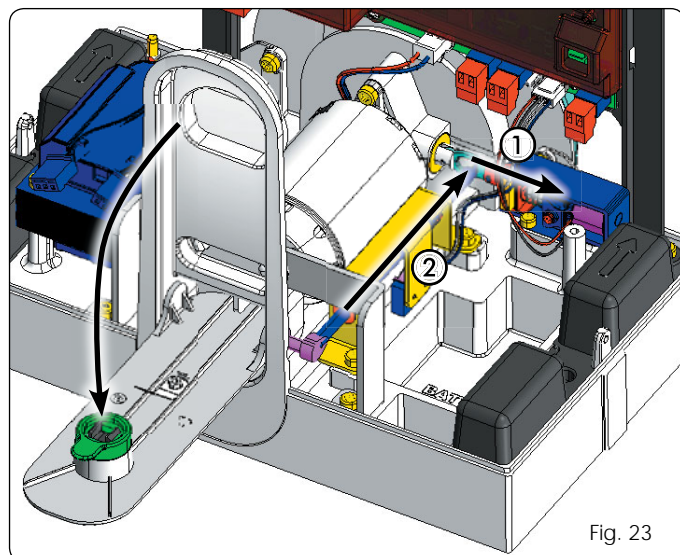

Fig. 23
Lowering the release lever, both the motor lock, which is retracted (Fig. 23 re. ①), and the safety microswitch forcing the automation to STOP (Fig. 23 re. ②) are operated.